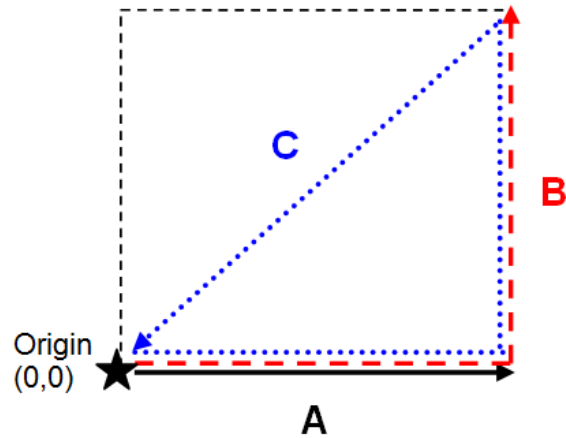

Figure 7-4: Forming a right-angle triangle
Step 2 – Layout the Grid – for maximum accuracy, it's very important to establish a right-angle triangle (Figure 7-4). The easiest way is to use a single tape measure and refer to the diagram below. Start at the origin, walk out the desired distance for X-axis (A) and mark that point. Then then turn 90 degrees and walk out the desired distance for the Y-axis (B) and mark that point. Determine the hypotenuse side (C) from the screen (Figure 7-4), then close in the triangle (C - hypotenuse side) back to the origin, making sure you meet the origin at the distance for C. If not, move that last point in tandem with the origin, such that both sides of the tape measure are taut.